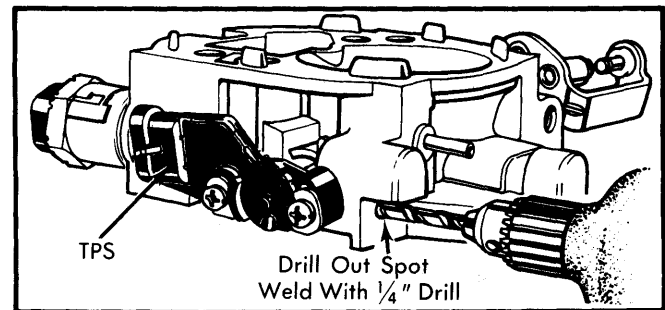

Fig. 6 Removing TPS Assembly (Rear Unit Only)
2) Using a $\frac{1}{4}$ " drill, drill completely through TPS screw access hole in base of rear throttle body unit to remove spot weld. See Fig. 6.